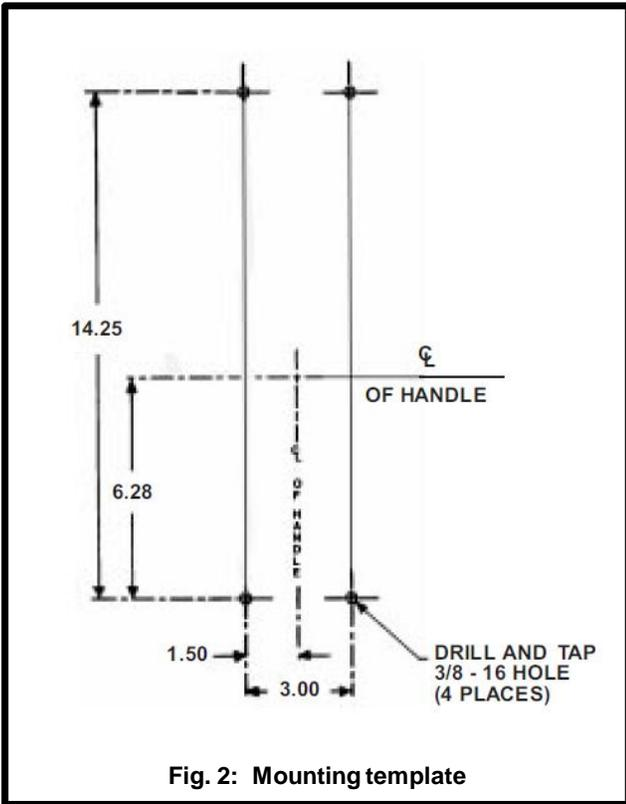
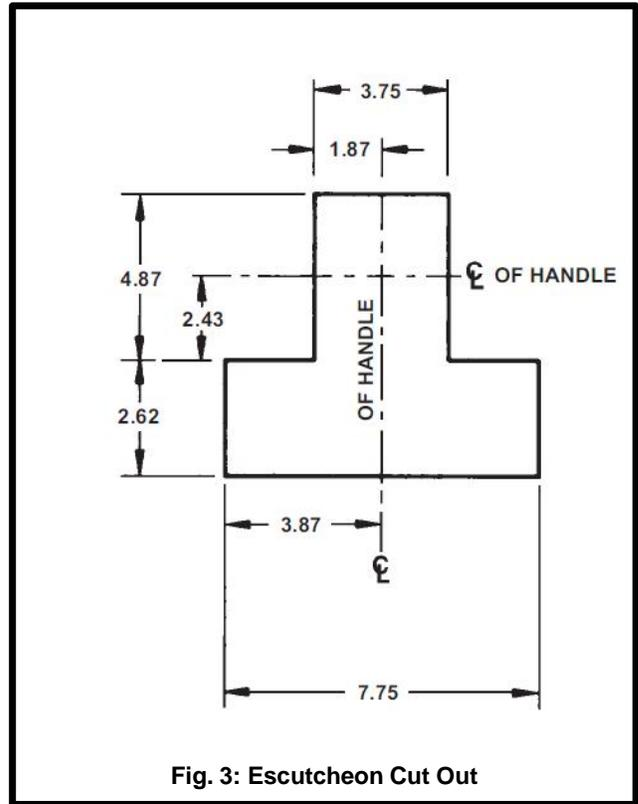

Fig. 2: Mounting template
Fig. 3: Escutcheon Cut Out
2. For applications where mounting is on a flat surface of the equipment, drill and tap mounting bolt holes as shown in Fig. 2. For escutcheon cut out refer to Fig. 3.